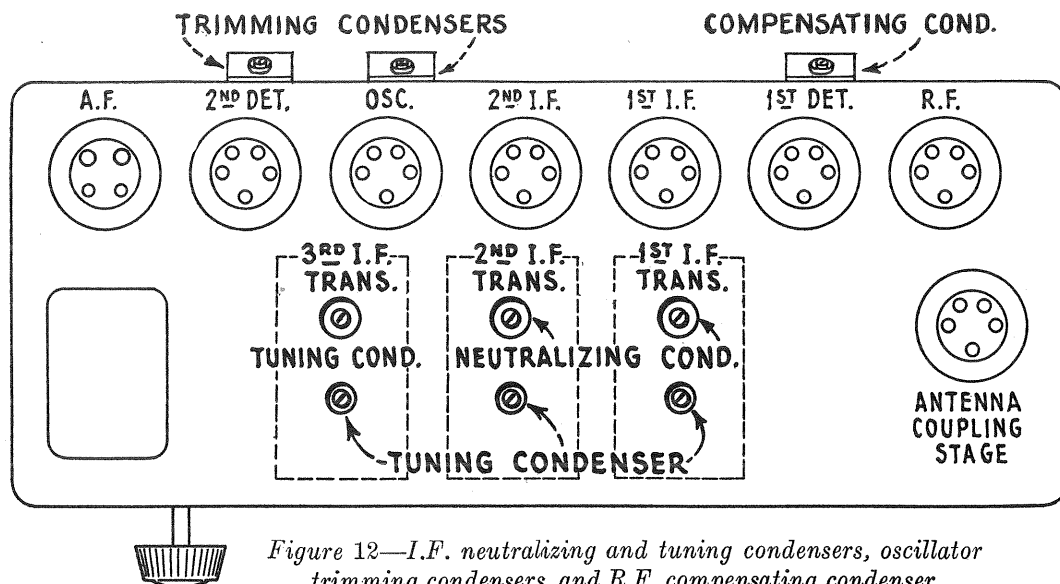

Figure 12—I.F. neutralizing and tuning condensers, oscillator trimming condensers, and R.F. compensating condenser
- (a) Adjust the tuning condensers successively on the third, second and first I.F. transformers (Figure 12) for maximum signal in the loudspeaker and maximum reading on the milliammeter. If pointer should go off milliammeter scale reduce the volume control. After making one adjustment on the transformers it is a good plan to repeat, as slight changes may have occurred in tuning the other circuits. No signal, or a loud howl indicates neutralizing condensers are at either extreme, and should be readjusted.
- (a) Leave all adjustments and apparatus in position on completion of tuning, but substitute a pair of phones for the loudspeaker. Place dummy Radiotron in first I.F. socket. Now adjust the neutralizing condenser on the first I.F. transformer. (See Figure 12) for the position of minimum or no signal. This is easily identified and the adjustment is not critical.
- (d) Adjust trimming condenser on left (facing front of Radiola, Figure 12) for a maximum reading.